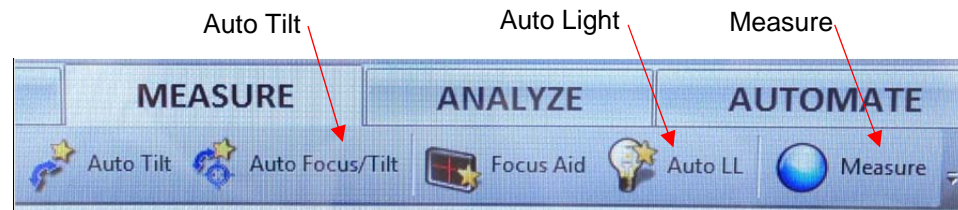

Figure 4
LL icon (Figure 4), which is at the right side of the icon bar on the software screen, to auto tune the light intensity for focusing.
3. Click the Auto LL icon if needed when you have the brightest fringes on the screen. Then click the Auto Tilt icon (Figure 4) to auto level the surface of interest.
4. Choose the appropriate Scan Length from the left column of the software screen (Figure 4). The appropriate scan length would be two times the expected thickness of your film or height of your step.
5. After that, click the **Measure** icon (Figure 4) to take a measurement. Once it is done, the surface topography will be displayed on the right side of the screen. You can view the 3D topography by clicking the Analyze tab (Figure 4).